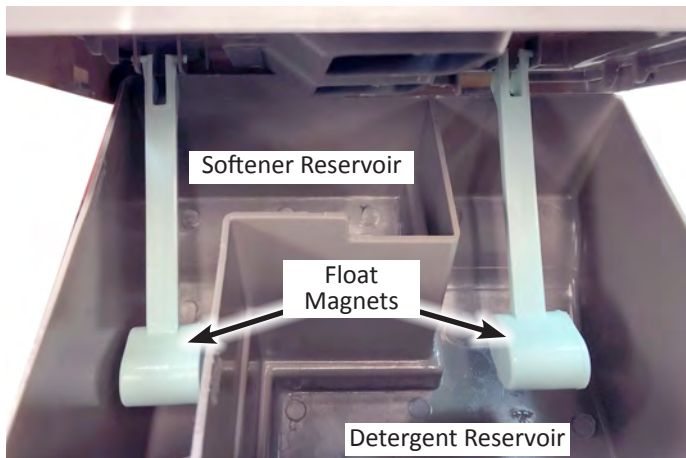

Figure 3 - Dispenser Container Inside View
3. Open dispenser lid and remove bulk dispenser container. Save customer's detergent and softener in spare container(s). When empty, you should 'hear' the floats moving up and down when the container is rotated (see Figure 3). If stuck, thoroughly rinse both container reservoirs with warm water. Fill reservoirs with water to test floats. Reinstall bulk dispenser container in dispenser assembly and check for proper operation.